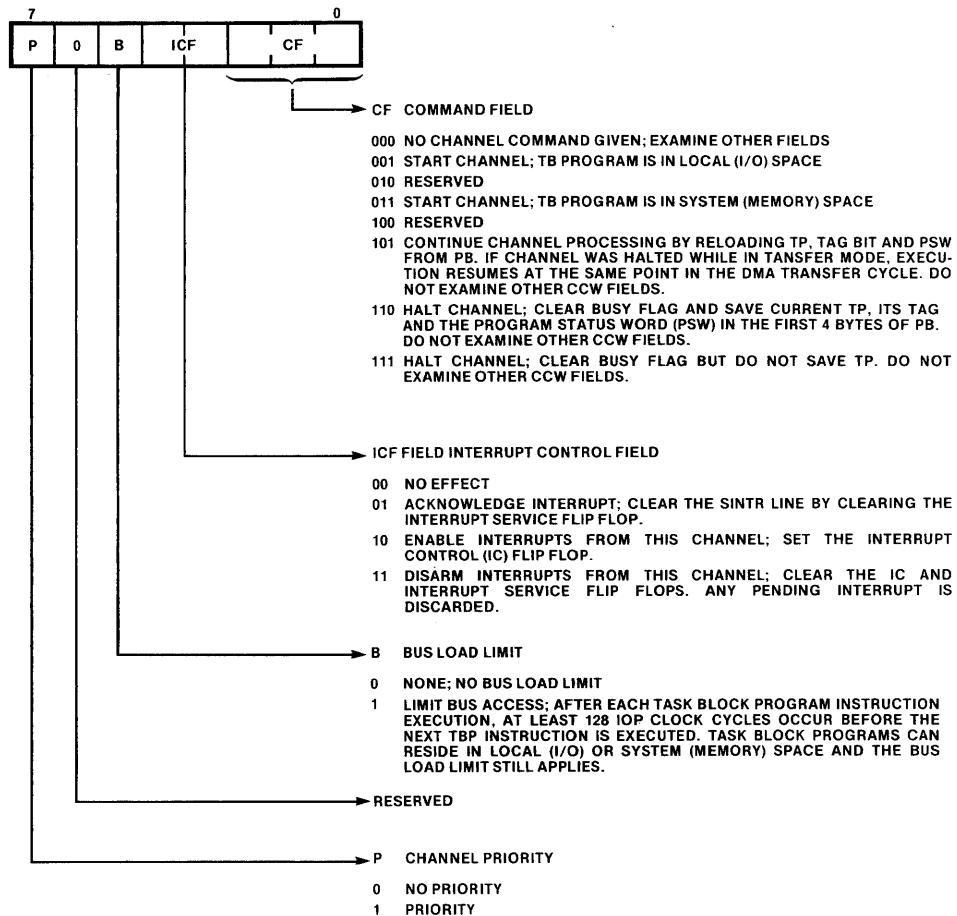

Figure 1-8. The Channel Control Word (CCW)
Figure 1-8 shows the CCW. It contains four fields, each controlling some aspect of the I/O channel's operation. The three bit Command Field (CF), bits 0-2, directs the channel's operation, optionally: